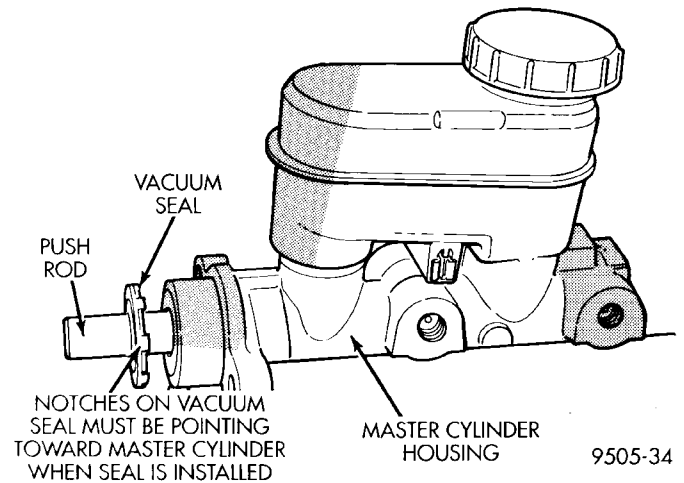
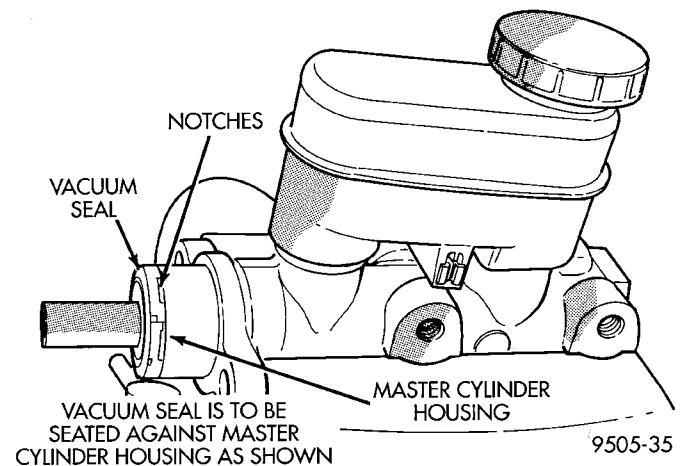

Fig. 121 Installing Vacuum Seal On Master Cylinder Push Rod
Fig. 122 Vacuum Seal Positioned For Installing Master Cylinder
(8) Install vacuum seal on master cylinder push rod as shown with notches on vacuum seal pointing toward master cylinder housing (Fig. 121). Then slide vacuum seal onto master push rod until seal is seated against master cylinder housing (Fig. 122) before installing master cylinder on power brake vacuum booster.